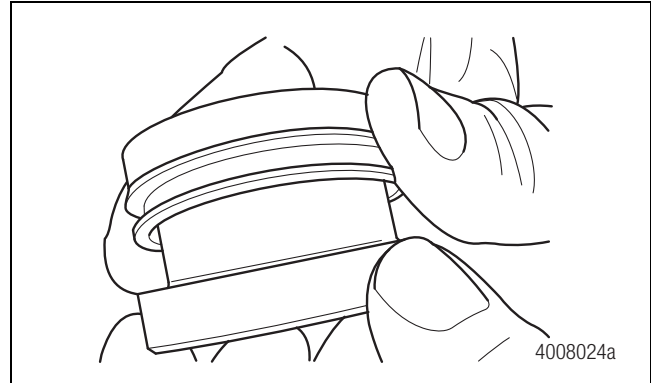

Figure 6.46
1. Place the retainer onto a suitable driver from Meritor tool MST1000. Figure 6.46.